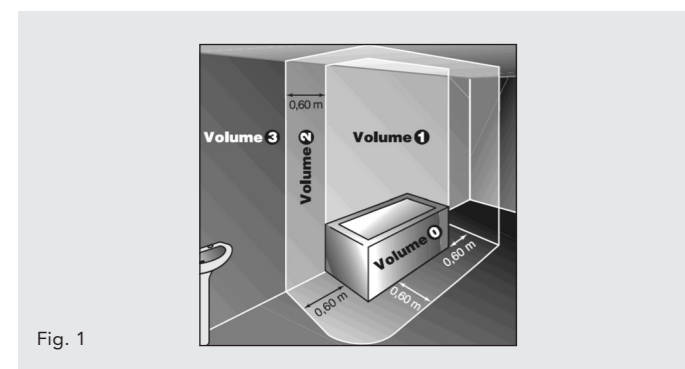

Fig. 1
- Figures 1 and 2 below show the correct positioning of the radiator,